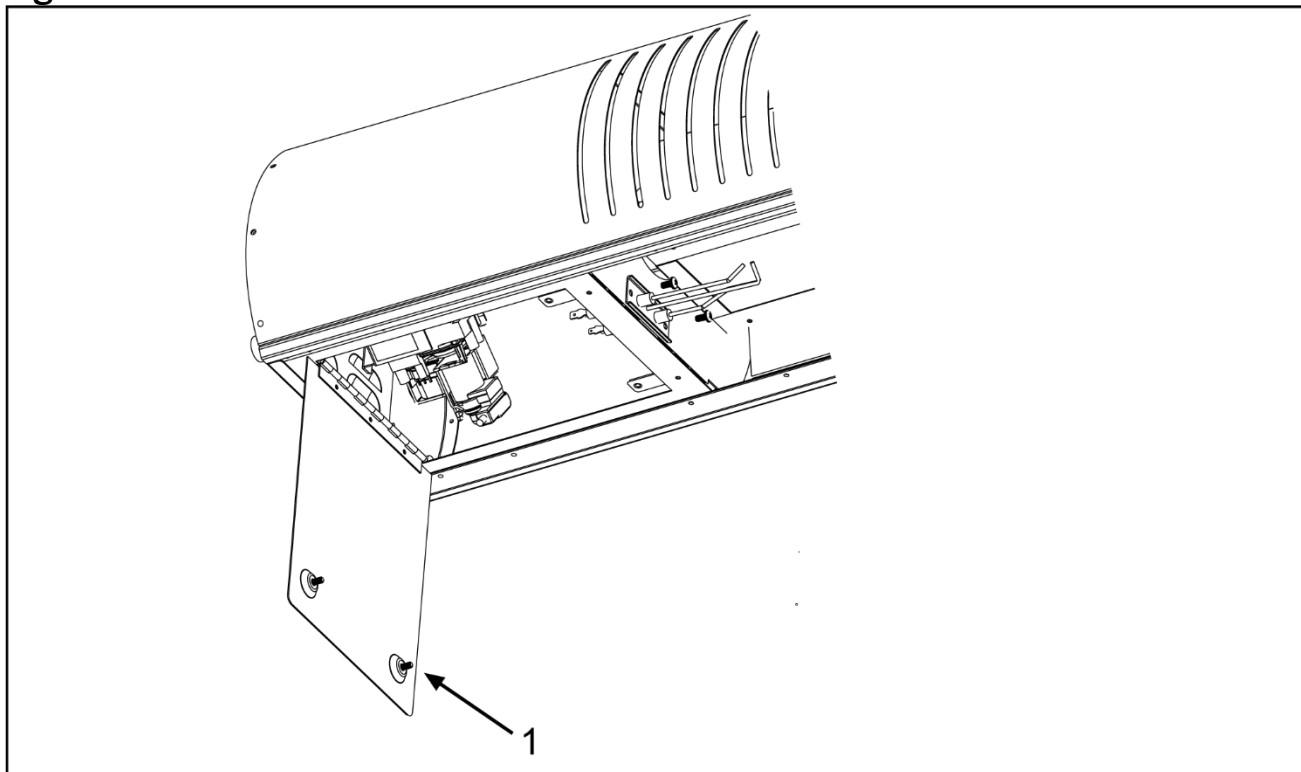

Figure 2
5. Loosen the screws from the access panel assembly, this will give access to the control valve. See Figure 2.